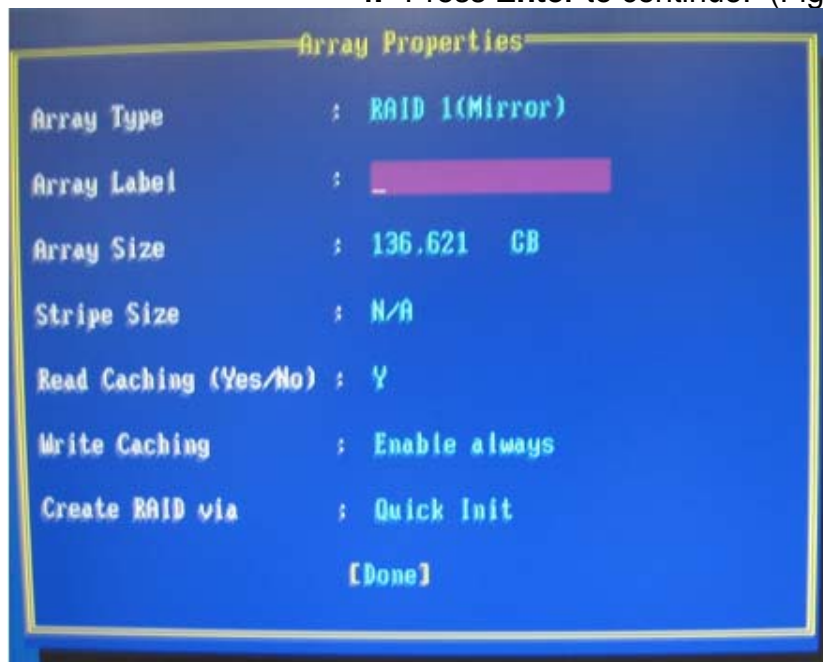

Figure 6-7 Array Properties
4. Press **Enter** to continue. (Figure 6.7)